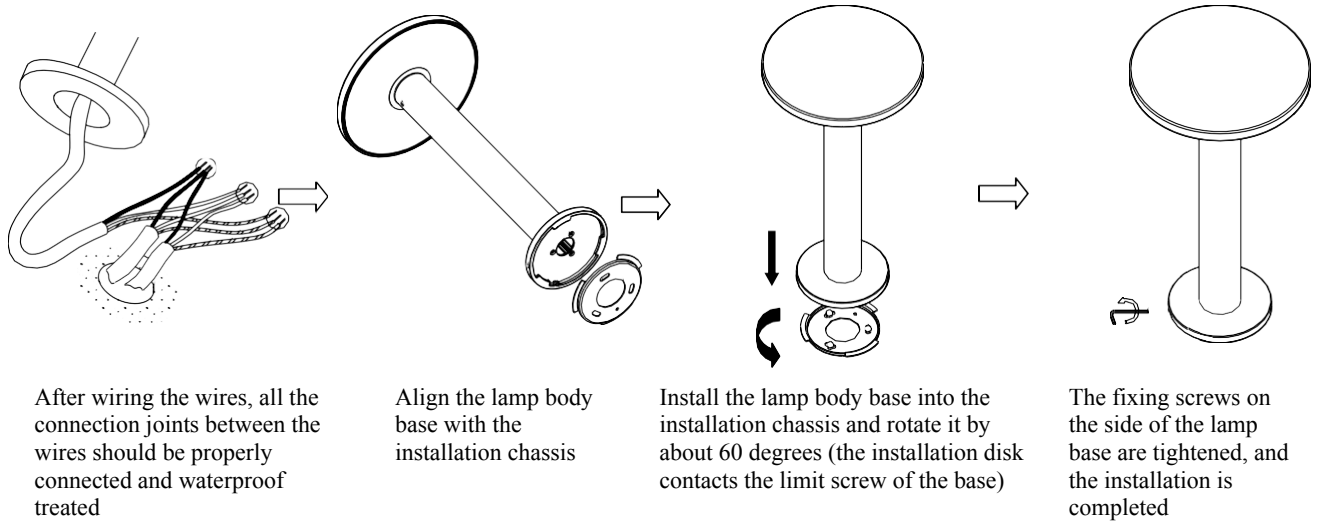

Figure 3.
3. After fixing the installation chassis, connect the lamp wires to the mains, and ensure waterproof protection for the wiring. Install the lamp body base on the installation chassis, as shown in Figure 3.